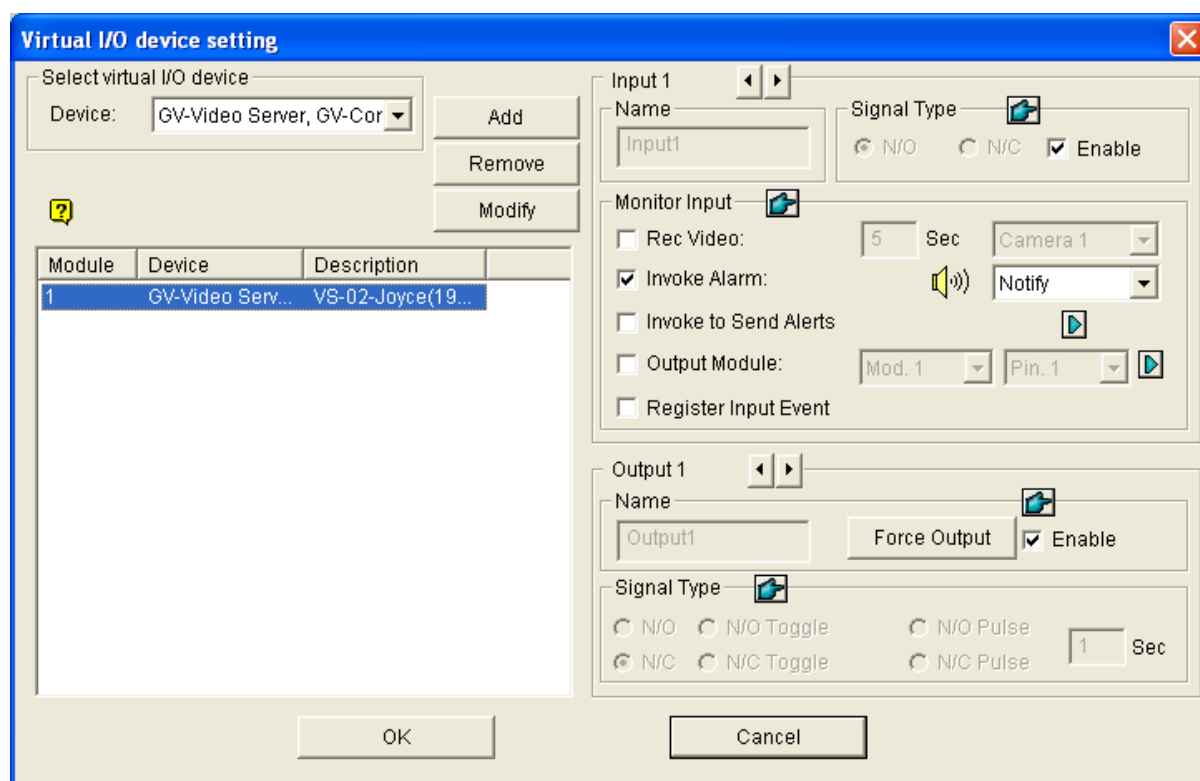

Figure 6-34
2. In the Virtual I/O Device Setting dialog box (Figure 6-34), select one device, e.g. **GV-Video Server**, **GV-Compact DVR**, **GV-IP CAM 1.3M I/O**, and then click the **Add** button. This dialog box appears.